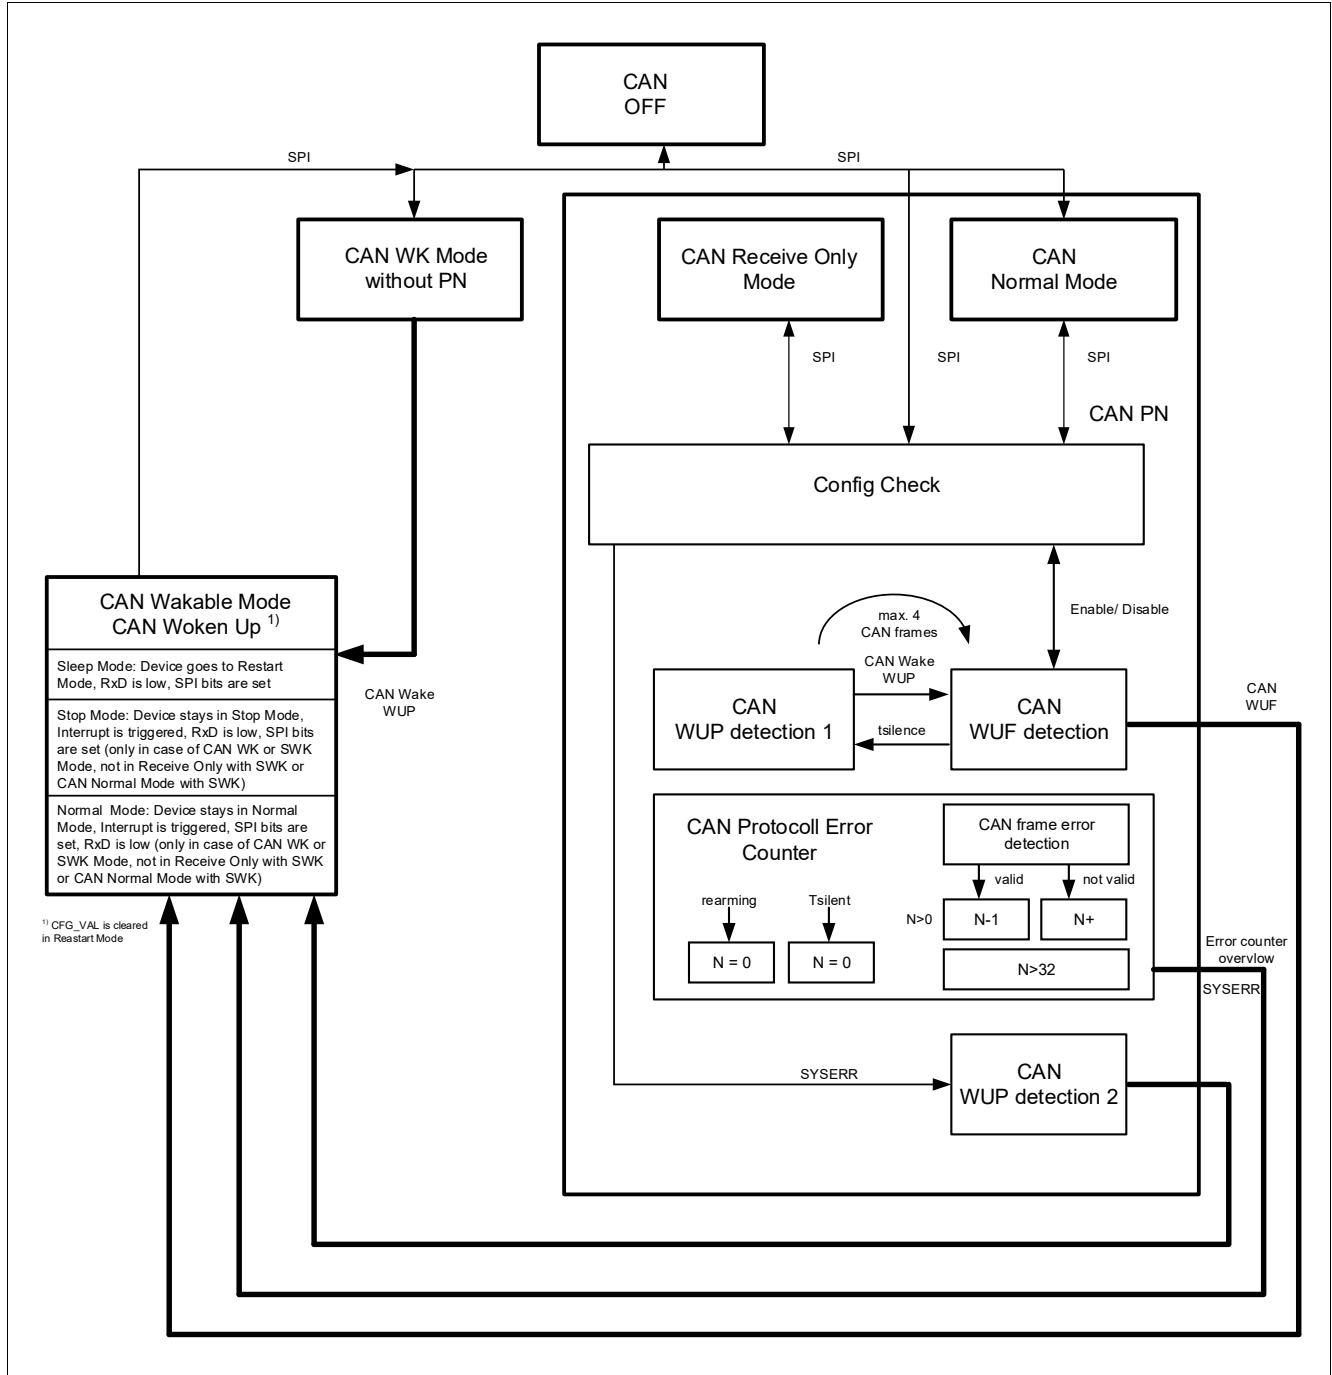

Figure 22 CAN Selective Wake State Diagram
*Note:* It is possible that WUF and WUP bit are set at the same time if a WUF causes a wake out of SWK, by setting the interrupt or by restart out of Sleep Mode. The reason is because the CAN has been in WUP detection 1 state during the time of CAN SWK Mode (because of  $t_{\text{SILENCE}}$ ). See also **Figure 22**.
The SWK\_SET bit is set to signalize the following states (see also **Figure 22**):